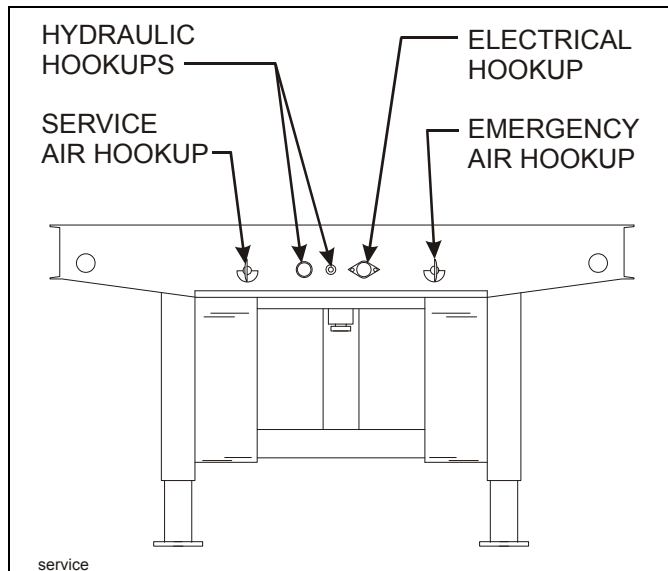

Figure 3-3: Service Hookups
3. Connect the service and emergency air hoses of the towing vehicle to their respective gladhand on the front of the semitrailer; red emergency line to the gladhand with the **"EMERGENCY"** tag, and the blue service line to the gladhand with the **"SERVICE"** tag (See Figure 3-3.) Chock the semitrailer wheels before activating the semitrailer air supply valve in the towing vehicle. Set the parking brakes.
1. Connect the towing vehicle 7-pole electrical plug to the electrical receptacle on the front of the semitrailer (See Figure 3-3.)